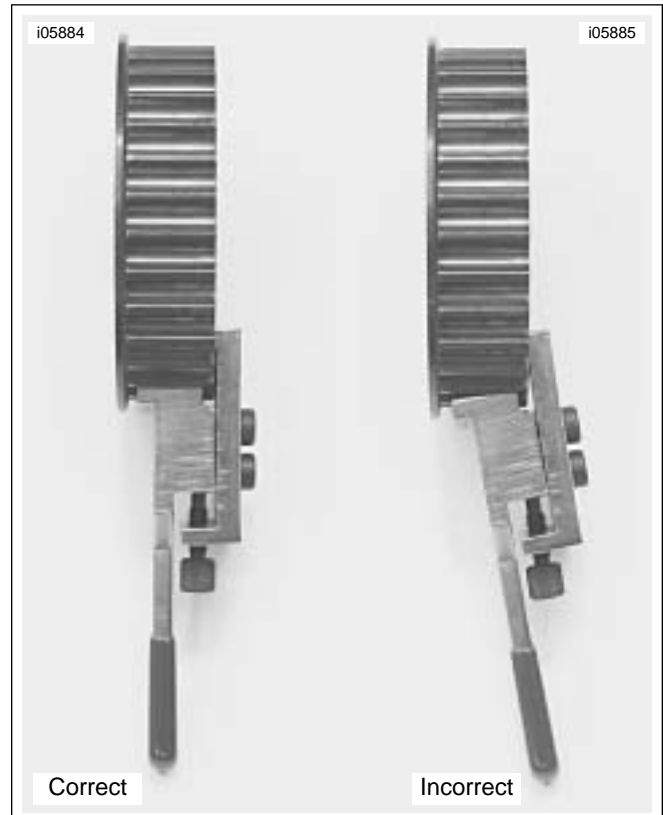

Figure 2. Attaching Holding Tool to Final Drive Sprocket
2. See Figure 2. Holding tool attaches to final drive sprocket as shown.